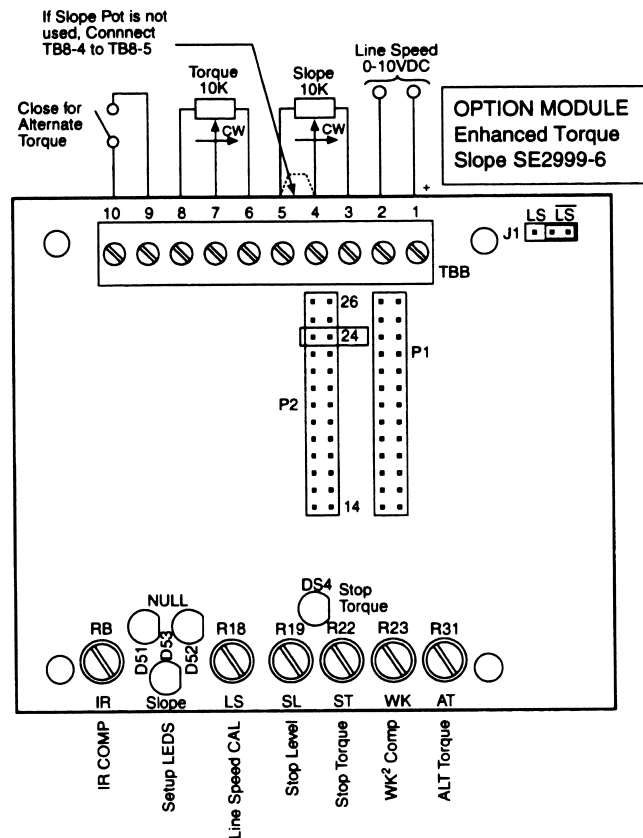

Figure 6-6
1. Refer to FIG. 6.6 for location of adjustments. Set IR, LS, ST, WK² and AT pots CCW. Also set external TORQUE and SLOPE CCW. Place J1 in the LS position if a LINE SPEED signal is to be used. If a LINE SPEED signal is not available, see section 6.11.4.
1. Refer to FIG. 6.6 for location of adjustments. Set IR, LS, SL, ST, WK² and AT pots CCW. Also set external TORQUE and SLOPE CCW. Place J1 in the LS position if a LINE SPEED signal is not to be used. (With J1 in the \overline{LS} position, winder torque will vary with the line speed).